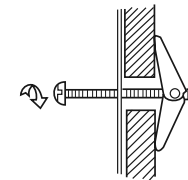

Figure 19
- Align the Mounting Plate carefully and hold in position while tightening Toggle Bolts. Pull Toggle Bolt toward you and turn clockwise to tighten. Figure 19.